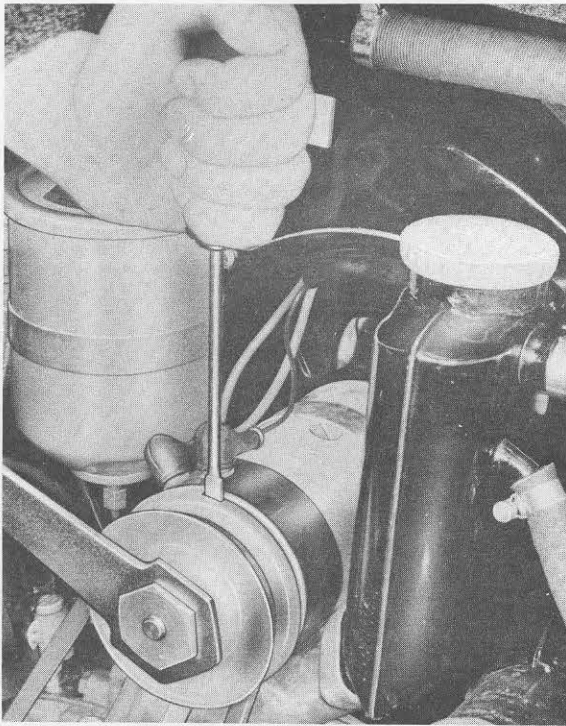

Fig. 71
1. Remove generator pulley retaining nut (36 mm wrench); to lock the pulley in place during this procedure, insert a square-edged screwdriver into the recess in the inner edged of the pulley and brace it against the top bolt protruding from the generator housing (see Fig. 71).